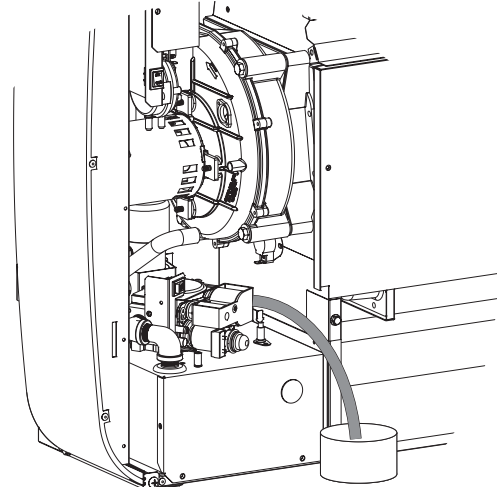

Figure 66
5. Drain the end into a container. Make sure there are no sags or kinks in the hose that could prevent draining. **See Figure 66.**